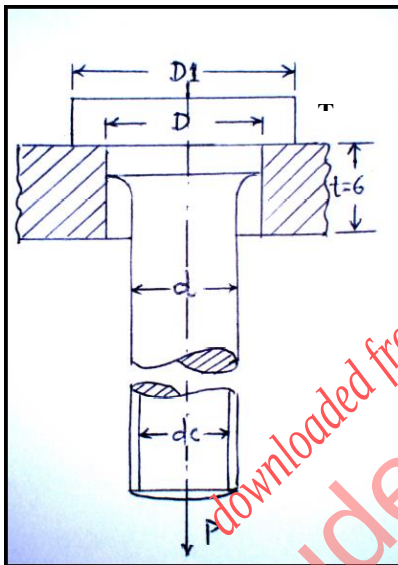

figure-1. Q-2 (a)
- Q.2 (a)** A bolt of diameter  $d$  is enlarged near its head to a diameter  $D$ . The head is cylindrical having diameter  $D_1$  and thickness  $T$  as shown in figure-1. The bolt when fixed in a structure having 6 mm plate thickness  $t$ , takes a tensile load of  $P=30$  KN. Determine the dimensions  $d$ ,  $D$ ,  $D_1$  of the bolt using design stresses for the material of bolt as: **07**